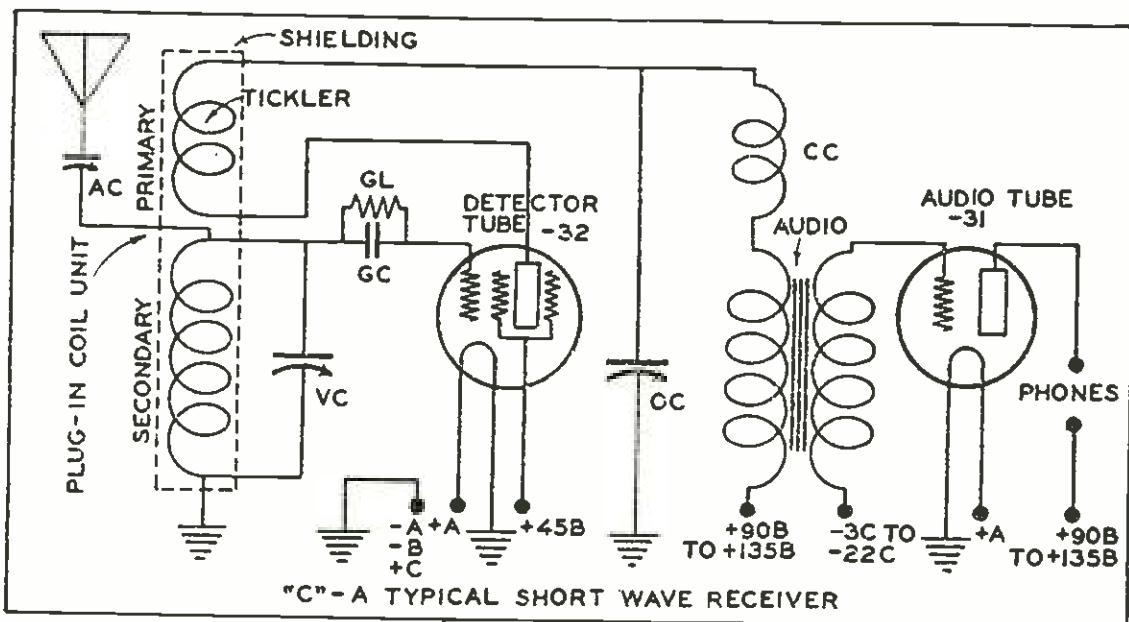
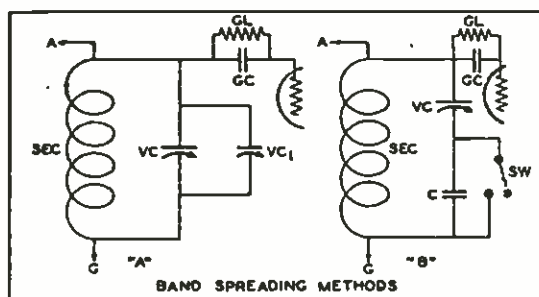

Figure 41
Figure 43
Typical Circuit At "C" Fig. 41 is shown the circuit of a typical two-tube short-wave receiver. It closely resembles the average small broadcast receiver. However, in order to obtain the necessary sensitivity these types of sets use the *feed-back* principle, as explained in Chapter Nine.
The variable condenser (VC Fig. 41) used to tune the secondaries of the r.f. transformers or plug-in coils, has a maximum capacity of .00014 microfarad. The tiny antenna condenser (AC) is about 35 mmfds. capacity. The choke coil
At "A" Fig. 43, the secondary winding of the plug-in r.f. coil that was used in the short-wave receiver shown in "C" Fig. 41 page 59, will be seen, but the remainder of the circuit is not indicated. The band spreading operation is confined entirely to the tuning coil and its condenser. The tuning condenser (VC) is shown in "A" Fig. 43.
In order to eliminate the use of the variable condenser VC, with its tuning requirements, the method shown at "B", Fig. 43, may be used. A small, fixed condenser (C) is connected in *series* with the tuning condenser VC. It is shunted with a switch so it can be cut in or out of the circuit at will. It is known that if two condensers are connected in series the capacity of both will be greatly reduced. The capacity of C, in our short-wave circuit, should be about .0005 (50 mmfds.) mfd. Now, when C is in the circuit, VC will have the capacity of a much smaller condenser, and stations tuned in by it will be more widely separated on the dial of VC.